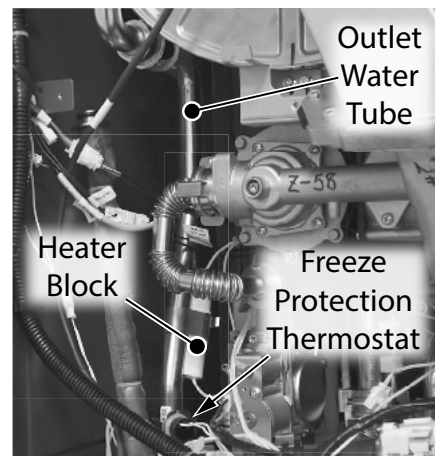

Figure 6 - Remove freeze protection thermostat and heater block from outlet water tube
- 18** Locate the outlet water tube as shown in Figure 6. Remove the freeze protection thermostat from tube and set it aside in water heater cabinet for ease of outlet water tube removal.
- 19** Locate the heater block and bracket (size 20) attached to outlet water tube. Remove heater block and bracket as shown in Figure 6 above. Place bracket aside in a safe place for reinstallation. Route heater block and wiring inside water heater cabinet for ease of outlet water tube removal.